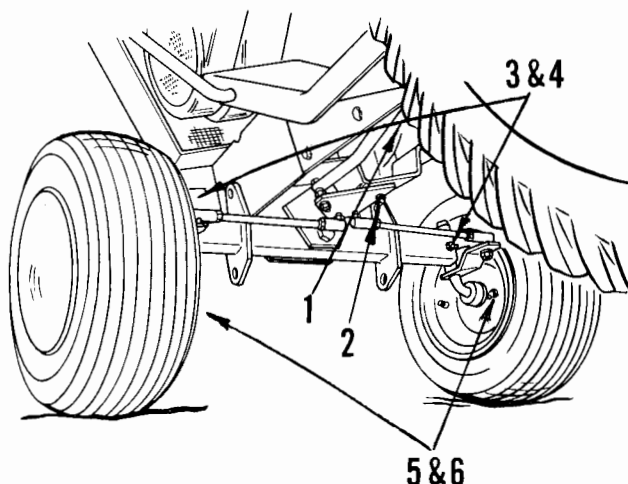
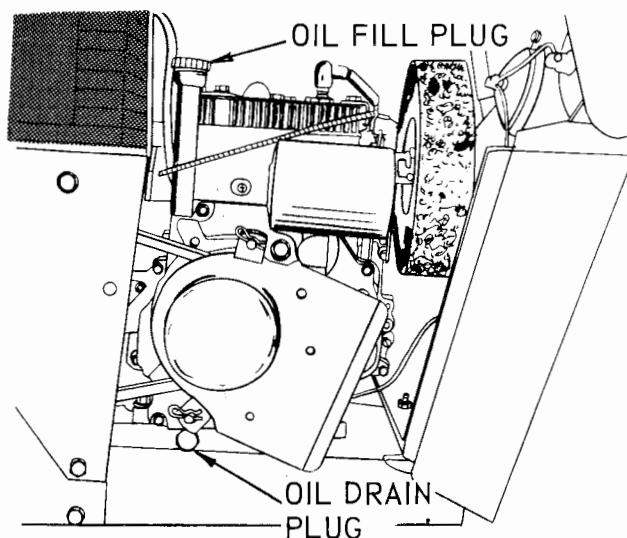

FIG. 10
FIG. 11
- To drain oil, unscrew oil drain plug at lower R.H. side of engine, see Fig. 11. Catch oil in suitable container.
There are only 6 grease fittings on your tractor: Give each grease fitting two shots of grease every five hours of operation. Use Sears All-purpose Lithium gun grease or equivalent. Refer to Fig. 10. Check oil in engine crankcase at least every five hours of operation. Change oil every twenty-five hours of normal operation. In extremely dirty or dusty conditions, change oil every fifteen or twenty hours of operation. Refer to Fig. 11. Check oil in transaxle every fifty hours of operation. Change oil in transaxle every five hundred hours of operation. Refer to Fig. 12.